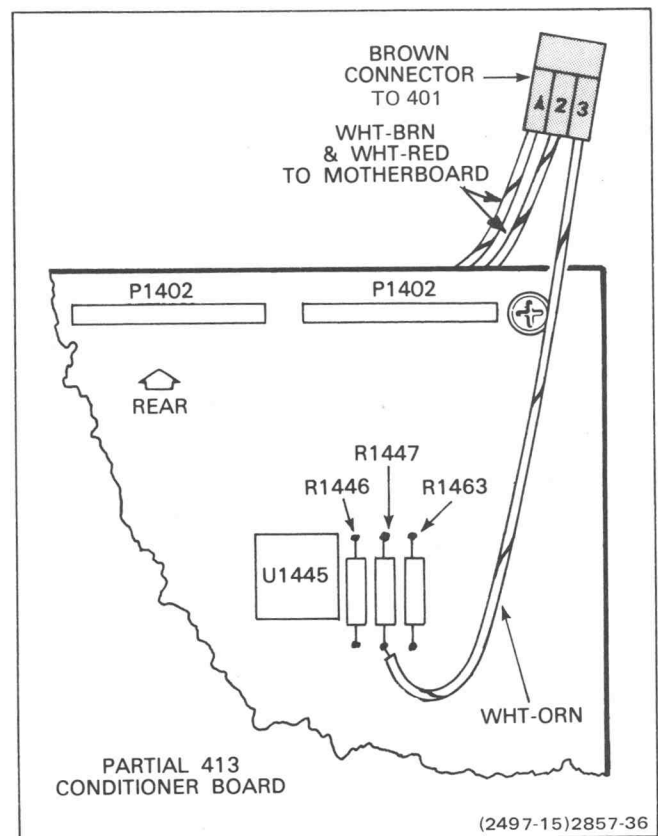

Figure 2-1. Location of white-orange wire between 413 and 401.
c. If 401 was attached, unsolder white-orange wire from R1447 as shown in Figure 2-1.